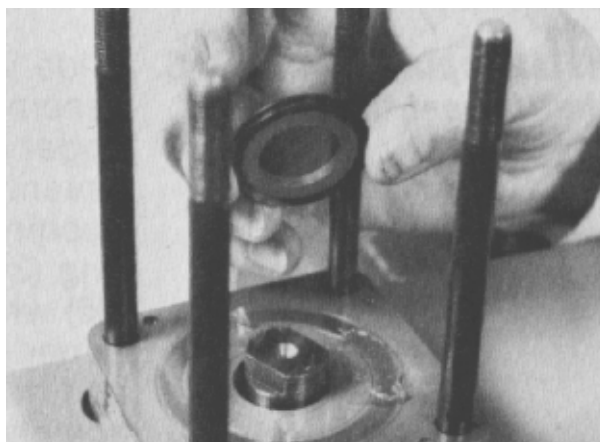

Figure 90
10. Install the face seal, backup ring and spacer assembly over the end of the input shaft and onto the upper cover plate (Fig. 90).